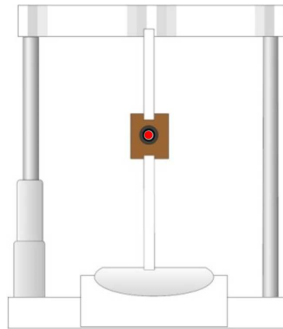

Figure 3: Burn mark after firing the treatment laser
10. Inspect the burn mark through the binoculars to check that the aiming beam spot coincides with the burn mark (*See Figure 3*)
9. Inspect the burn mark through the binoculars to check that the aiming beam spot coincides with the burn mark (*See Figure 3 in the above section 2.2.3*)